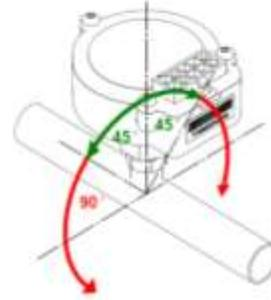
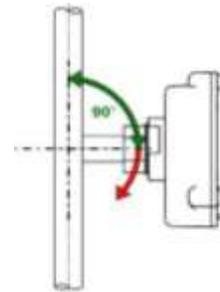

Figure 12 - USHX installation orientation on a horizontal copper line
Figure 13 - USHX installation orientation on vertical copper line
3. See Figure 12 and Figure 13 for the proper orientation of the USHX. When installing the device on a horizontal copper line as shown in Figure 12, the USHX can only be installed up to a  $45^\circ$  angle from the vertical axis in either direction (represented by the curved green arrows). When installing the device on a vertical copper line as shown in Figure 13, the USHX cannot be installed at a downward angle (represented by the red arrow).